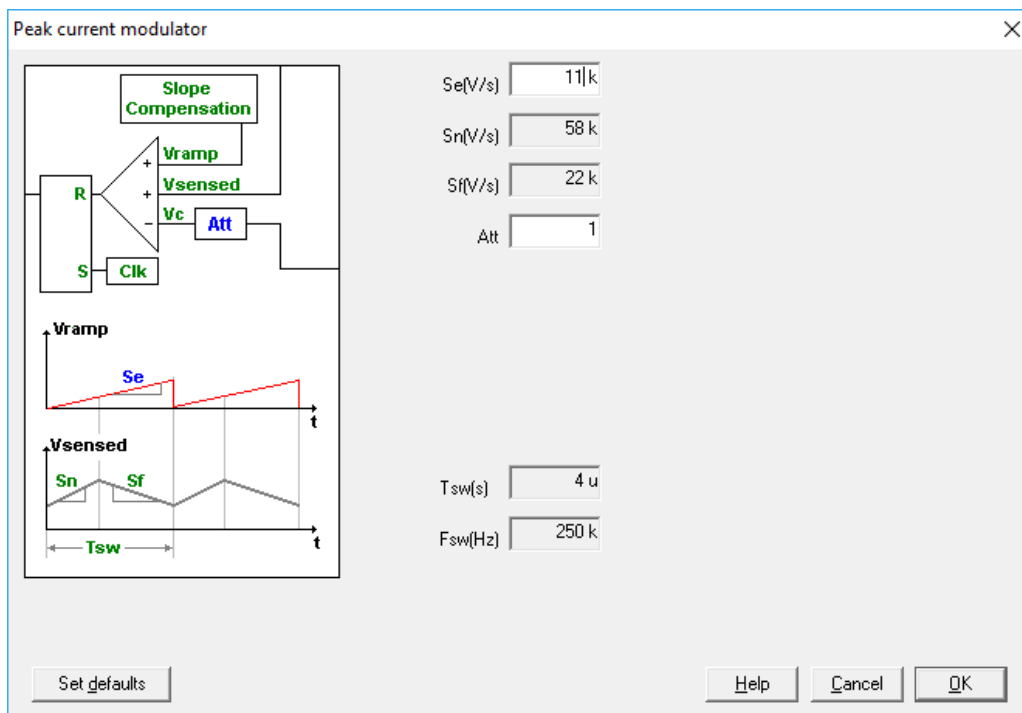

Figure 7: modulator parameters
4. Define the modulator parameters as shown in Figure 7.